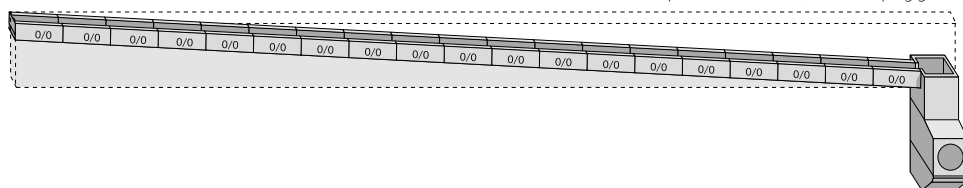

Fig.10
- Channels with progressively deeper inverts can be introduced towards the outfall end forming a stepped construction. Again the slope will increase flow and discharge capacity (Figs. 10 & 11 opposite).